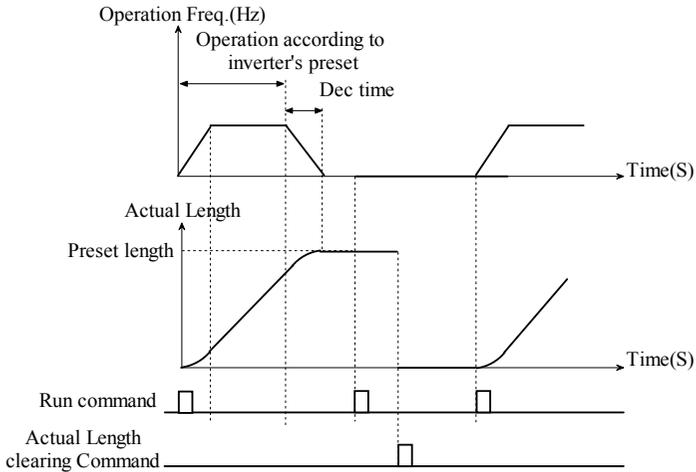

Fig. 5-8-1 Fixed length control diagram
- ◆ If the actual length (P8.01) is less than and nearly to the preset length (P8.00), the inverter will decelerate and run at low speed automatically. When actual length (P8.01)  $\geq$  preset length (P8.00), the operating frequency will be zero, and the inverter will stop according to the stop mode. When the inverter restarts, it needs to clear the actual length or increase the preset length. The preset length (P8.00) must be larger than the actual length (P8.01), otherwise, the inverter will not start. As shown in Fig.5-8-1.